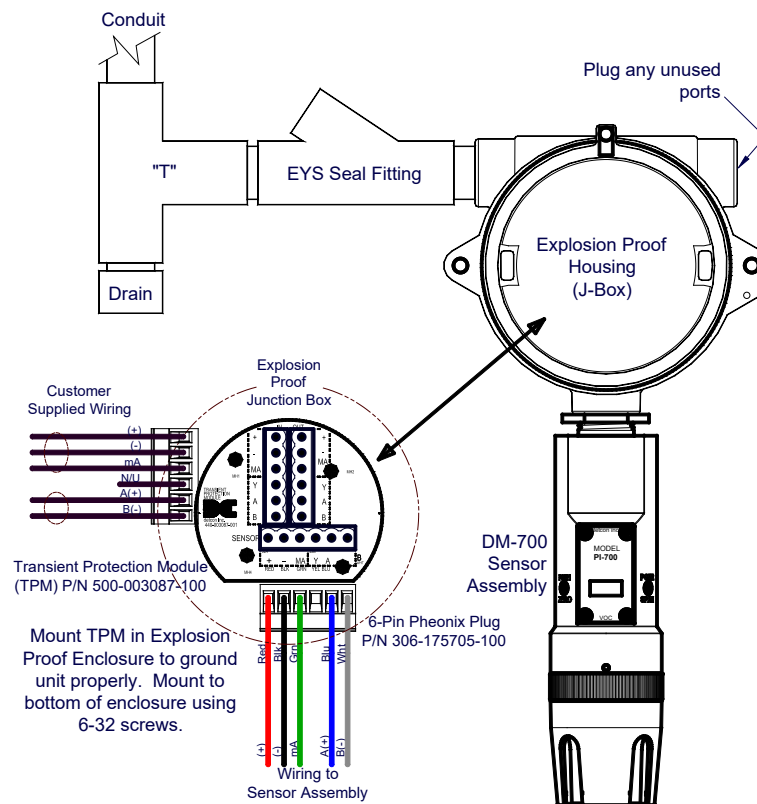
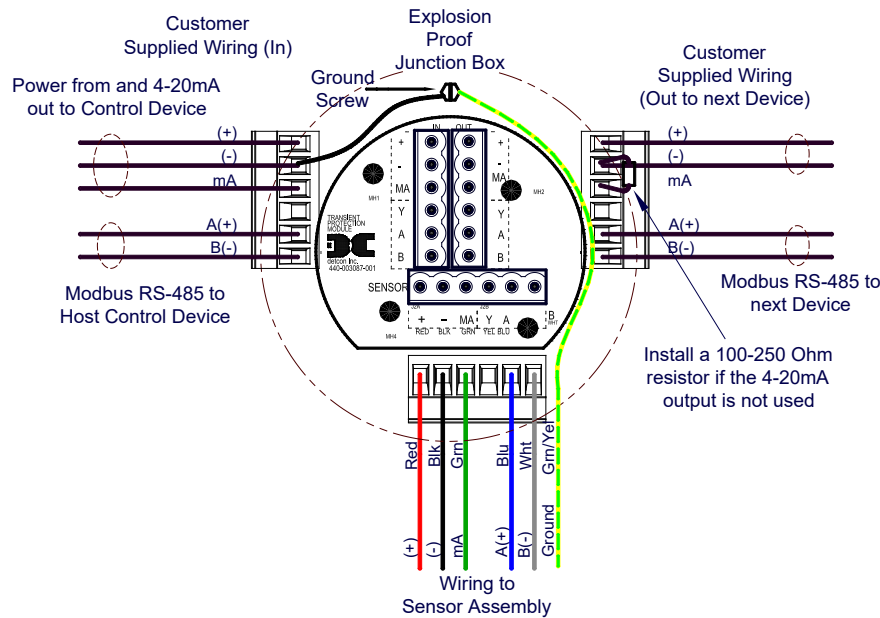

Figure 9 Typical Installation
Figure 10 Sensor Wire Connections
NOTE: All installations of the gas sensor should point straight down (refer to Figure 9). Improper sensor orientation may result in false readings and permanent sensor damage.
Proper electrical installation of the gas sensor is critical for conformance to Electrical Codes and to avoid damage due to water leakage. Refer to Figure 9 and Figure 10 for proper electrical installation.
NOTE: If a conduit run exits the secondary port, repeat the installation technique shown in Figure 9.
In Figure 9, the drain allows water condensation inside the conduit run to safely drain away from the sensor assembly. The electrical seal fitting is required to meet the National Electrical Code per NEC Article 500-3d (or Canadian Electrical Code Handbook Part 1 Section 18-154). Requirements for locations of electrical seals are covered under NEC Article 501-5. Electrical seals also act as a secondary seal to prevent water from entering the wiring terminal enclosure. However, they are not designed to provide an absolute water-tight seal, especially when used in the vertical orientation.
NOTE: For products utilizing the aluminum junction box option, the conduit seal shall be placed at the entry to the junction box (see Figure 9 as an example). For products utilizing the stainless steel junction box option, the conduit seal shall be placed within 18" of the enclosure. Crouse Hinds type EYS2, EYD2 or equivalent are suitable for this purpose.
- b) Observing correct polarity, terminate the 3-conductor 4-20mA field wiring (+, -, mA) to the sensor assembly wiring in accordance with the detail shown in Figure 10. If the 4-20mA output is not used, install a 100-250Ω resistor between the mA and (-) terminals on the Transient Protection Module.
- c) If applicable, terminate the RS-485 serial wiring as shown in Figure 10. Use the second plug (Out) as termination point on the customer side to facilitate a continuous RS-485 serial loop